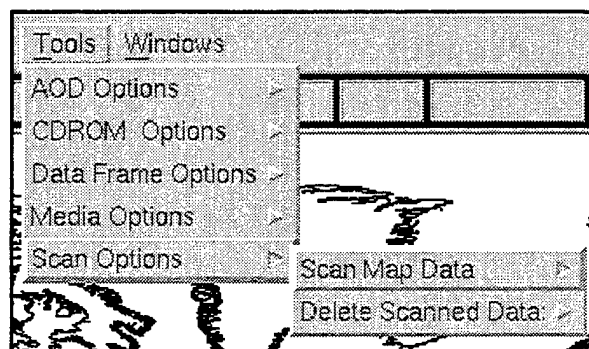

Fig. 49 — Scan options
*Scan Options* include scanning paper charts into the CAC format (including all phases of compression) and deleting scanned data from MMC (Fig. 49):